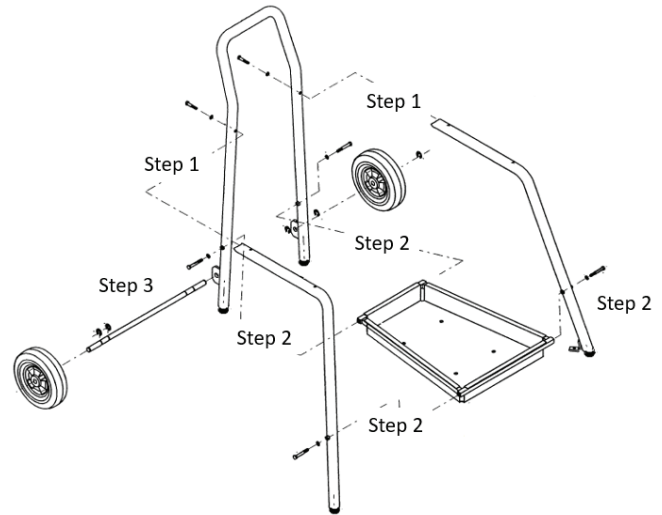

Figure 4 – Assembling Stand
2. Attach the tool tray assembly to the rear and front legs using the four (4) $\frac{3}{8}$ " – 16 x 2¾" hex screws and lock washers. Do not tighten screws.
3. Insert axle into tabs extending from the rear support/handle assembly and secure using four (4) retaining rings, See Figure 4.